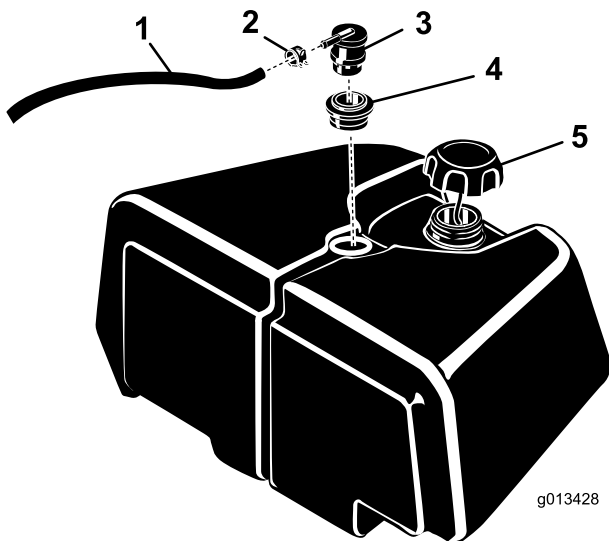

Figure 1
3. Clean the area around the fuel tank rollover valve so foreign matter cannot fall into the fuel tank when the valve and grommet are removed (Figure 1).
4. Loosen the hose clamp securing the hose to the rollover valve and disconnect the hose from the valve (Figure 1).
5. Remove the rollover valve and grommet from the fuel tank (Figure 1).